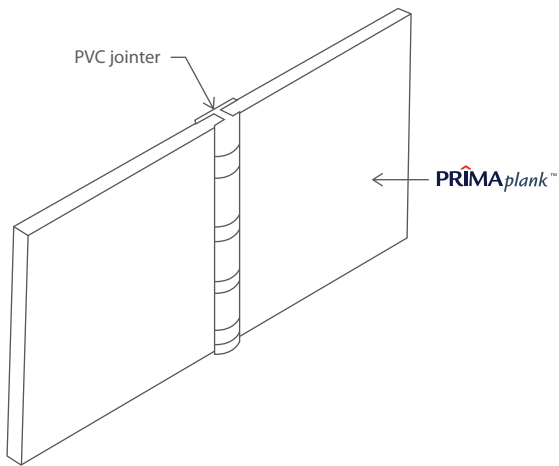
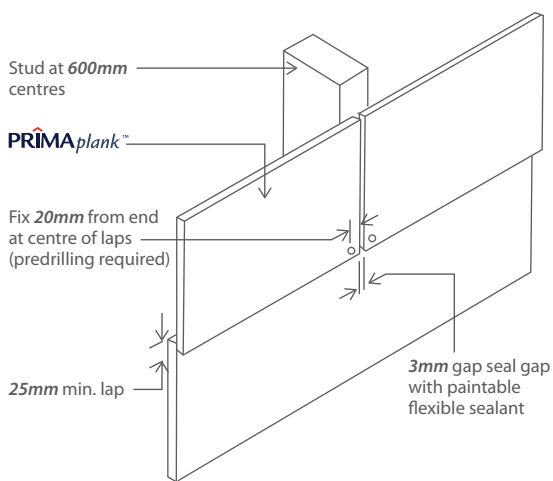

Figure 60 : PVC Mould (Off-Stud Jointing)
Figure 61 : On-stud Jointing
**PRIMAplank™** is normally applied horizontally and fixed with an "off-stud" jointing method using PVC jointer mould. Refer to Figure 60. On-stud jointing can be done by butt jointing plank ends with the provision of 3mm gap as shown in Figure 61. Seal gap with exterior grade paintable sealant.